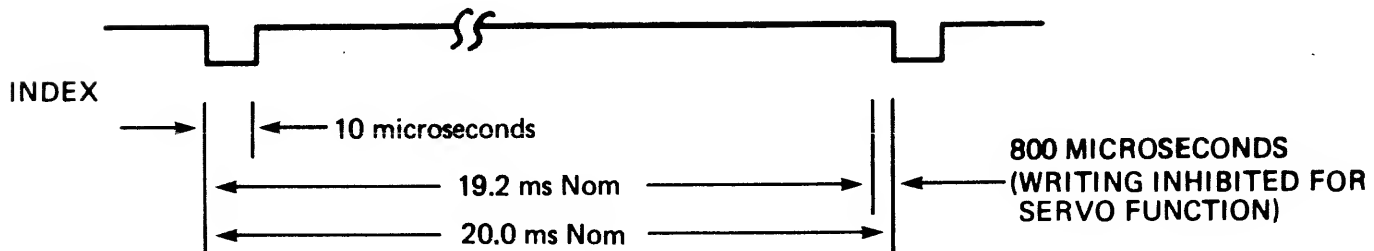

FIGURE 3-6
- INDEX - A LO pulse, of 10 usec duration on this line indicates the beginning of a track. The leading edge of this pulse must be used for all timing requirements. The pulse occurs once each revolution or every 20 msec. Figure 3-6 illustrates the index timing.